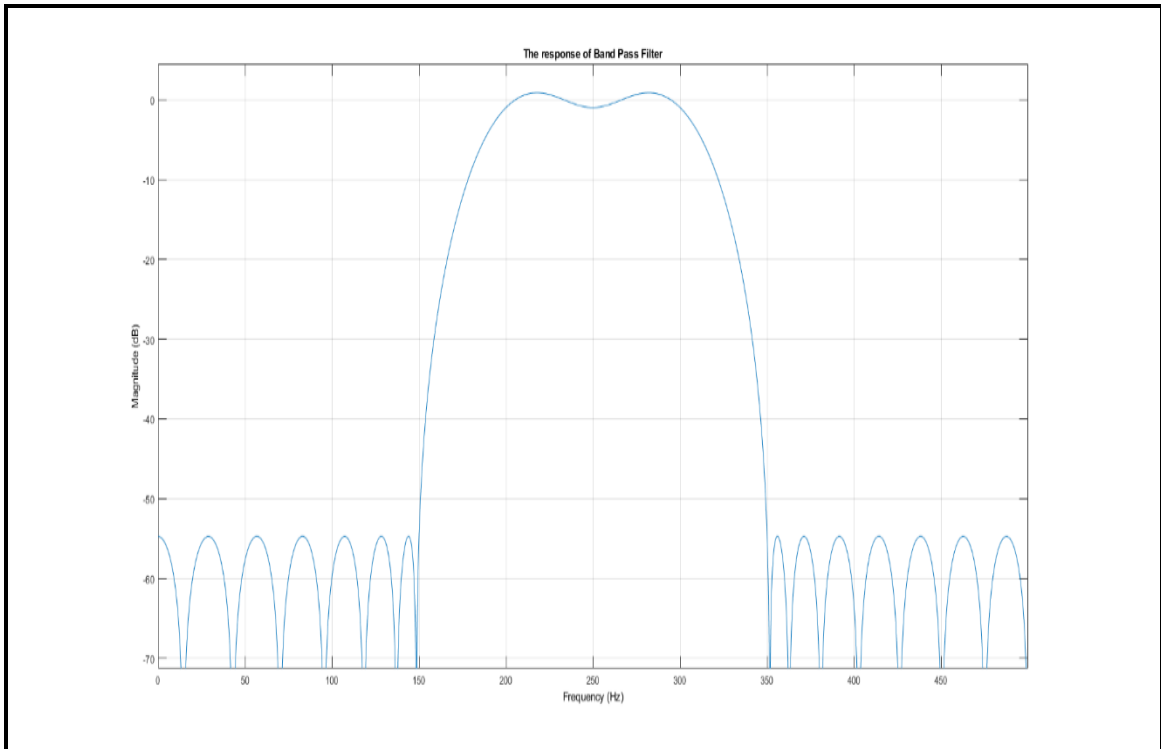

**Figure 46: Response of Low Pass Filter**
**Part 2:** The time domain and frequency domain representation of the signal shown in the Figure 45, shown in Figure 46 and 47 respectively:
Secondly, the low, high and band pass filters designed and the response of each shown in the Figures 46, 47 and 48, from the Figure 46 which is the response of low pass Filter notice that the gain of the filter at low frequency is high and at high frequency is low so the small frequencies can pass from this filter however,